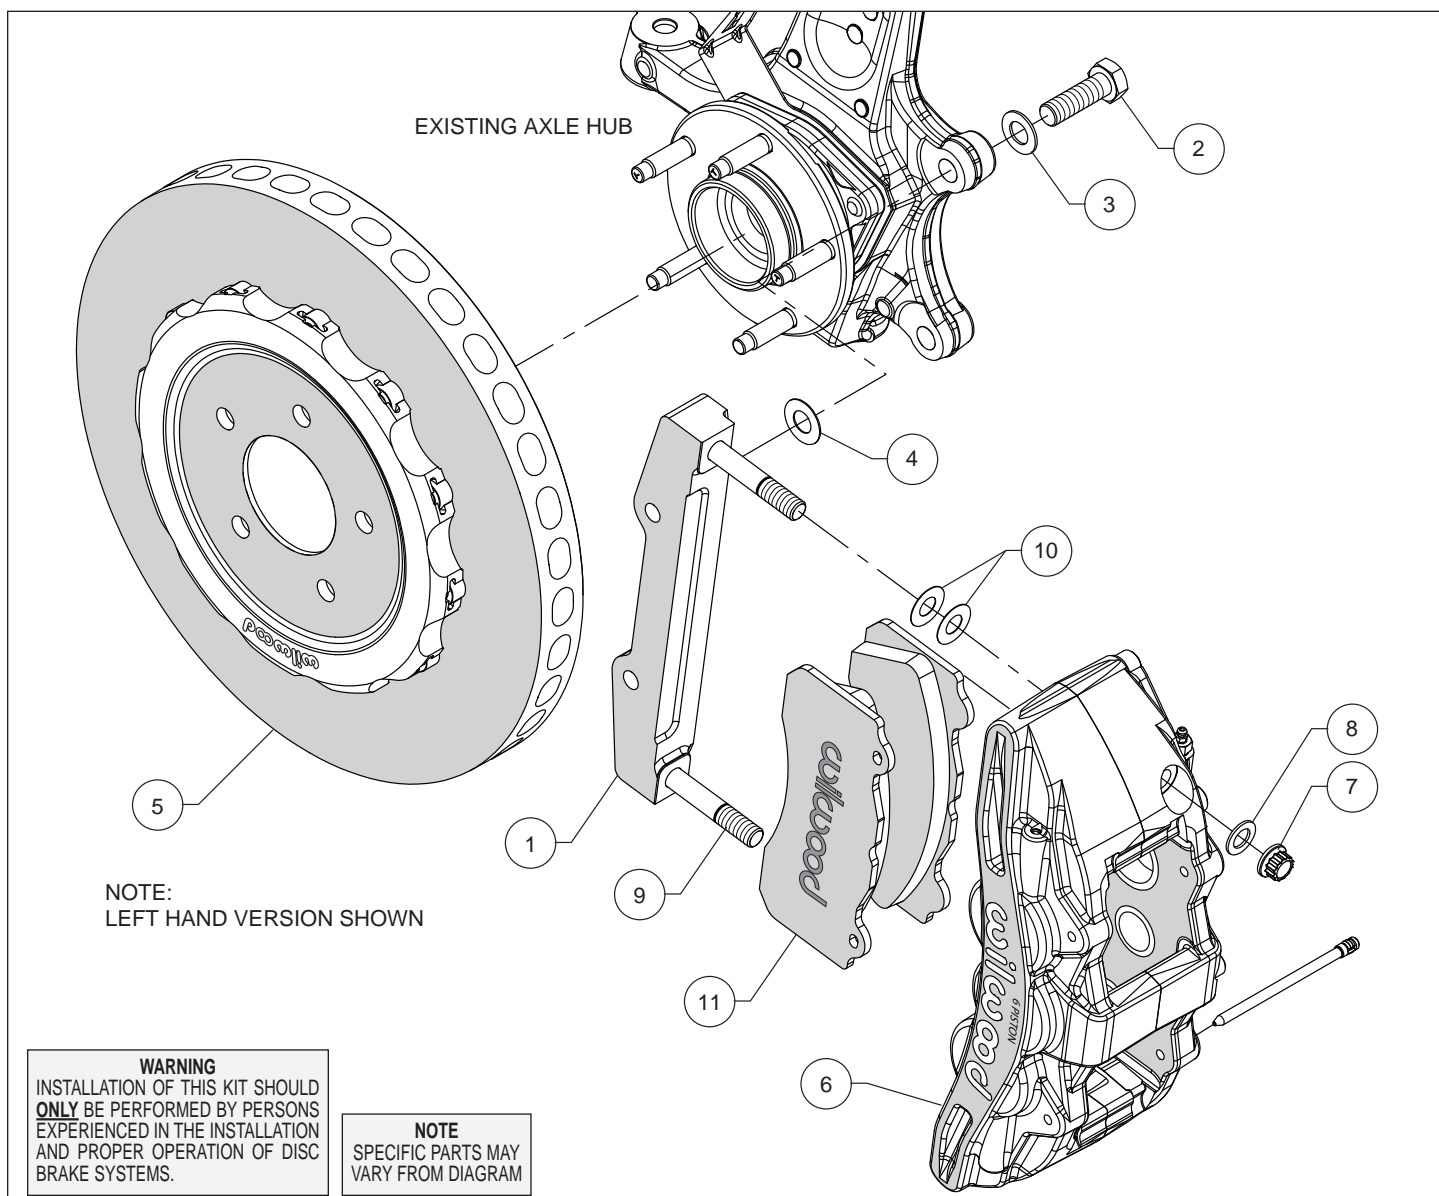

Figure 1. Typical Installation Configuration
Assembly Instructions (numbers in parenthesis refer to the parts list and Figure 1 on the preceding pages):
- The caliper mount bracket (1) should initially be installed with clean, dry threads on the mounting bolts. Orient the bracket, as shown in Figure 1 and Photo 1, and install using bolts (2) and washers (3). Initially place one .029" thick shim (4) on each bolt between the bracket and upright, Figure 1. Temporarily tighten the mounting bolts. **NOTE:** *The bracket must fit squarely against the mount bosses on the upright.* Inspect for interference from casting irregularities, machining ridges, burrs, etc. Later, after the caliper alignment has been checked, the mount bolts will be secured using red *Loctite*® 271.
- Slide the hat/rotor assembly (5) onto the axle hub. **NOTE:** *The hat must fit flush against the axle hub flange or excessive rotor run out may result.* Install three lug nuts (finger tight) to keep the hat/rotor assembly in place while continuing with the installation, Photo 2.
- NOTE:** *This kit contains distinct right and left hand calipers that must be mounted in a specific direction, as described below.* Lubricate the caliper mounting studs (9) with lightweight oil. Initially place two .015" thick shims (10) on each stud between the caliper and the bracket, as shown in Figure 1 and Photo 3. Mount the caliper (6) onto the bracket (1) using lock nuts (7) and washers (8), Figure 1. Temporarily tighten the lock nuts. Ensure that the caliper is mounted so the largest pistons are at the rotor exit end of the caliper, in relation to the direction of the rotor. View the rotor through the top opening of the caliper. The rotor should be centered in the caliper, Photo 4. If not, adjust by adding or subtracting shims (4) between the bracket and the upright. Always use the same amount of shims on each of the two mounting bolts. Once the caliper alignment is correct, remove the bracket mounting bolts (2) one at a time, apply red *Loctite*® 271 to the threads, and torque to 77 ft-lbs.
- Remove the two pad retaining pins from the caliper (6) by pushing out the pins from the tapered end using a blunt instrument. Insert the brake pads (11) into the caliper from the bottom, Figure 1 and Photo 5. With the friction material facing the rotor, secure the brake pads in place with the pad retaining pins, Photo 6. Reinstall the caliper onto the caliper mounting bracket and temporarily tighten the lock nuts. Check that the top of the brake pad is flush with the outside diameter of the rotor, Photo 7. If not, adjust by adding or subtracting shims (10) between the caliper and the bracket. After the caliper pad height is set, torque the caliper lock nuts (7) to 65 ft-lb.